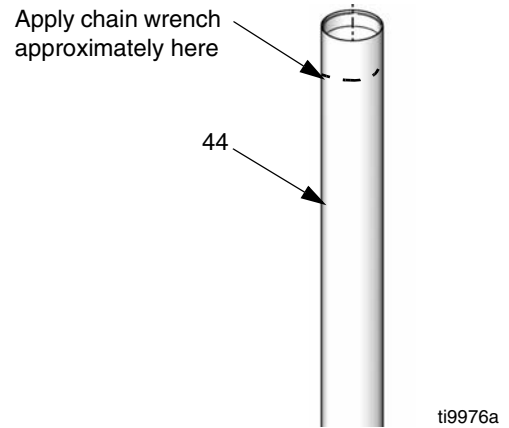
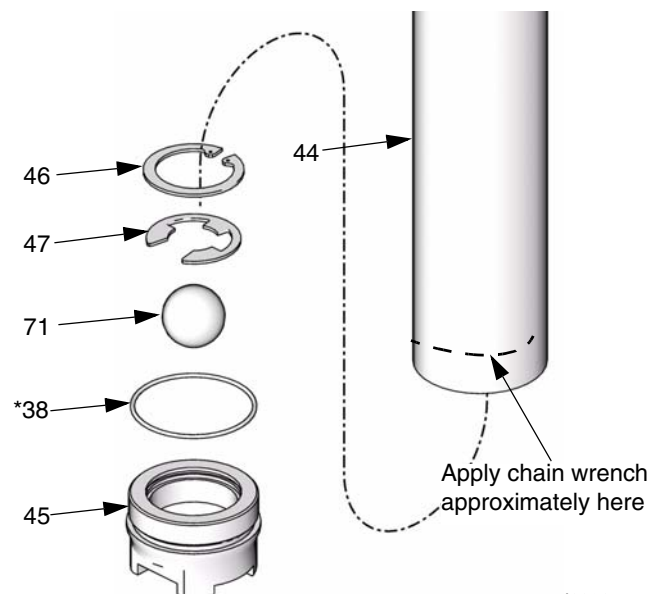

FIG. 16
FIG. 17
- Use a chain wrench near the top of the suction tube at the point indicated in FIG. 16, and a wrench on the flats of the foot valve (45) to loosen the foot valve from the suction tube (44). To prevent damage to the suction tube, do not remove the foot valve until instructed to do so in step 3.
- When removing the suction tube, be very careful not to bend, dent, or damage it. To avoid damage, use the chain wrench only at the top and bottom of the suction tube as indicated in FIG. 16 and FIG. 17. Do not apply the wrench to the middle of the suction tube.
2. With the foot valve still in place to support the suction tube, use a chain wrench near the bottom of the suction tube at the point indicated in FIG. 17, to loosen the suction tube (44) from the pump body (34).
3. Remove the foot valve assembly from the suction tube (44).
4. Remove retaining ring (46), snap ring (47), ball (71), and o-ring (38*) from foot valve (45). Inspect all parts for damage. See FIG. 17.